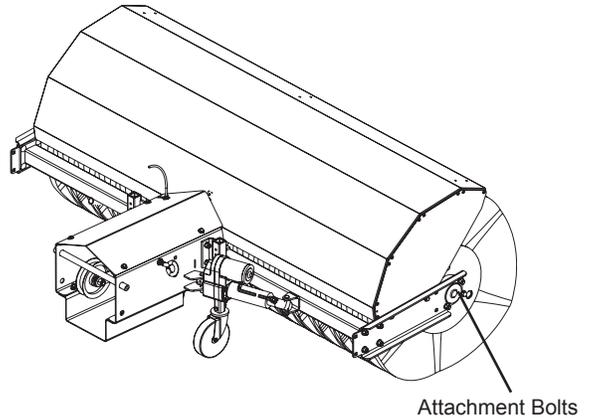

Figure 19 Brush Removal
- Remove bolts from broom bearings at both ends of the support shaft (Figure 19 Brush Removal).